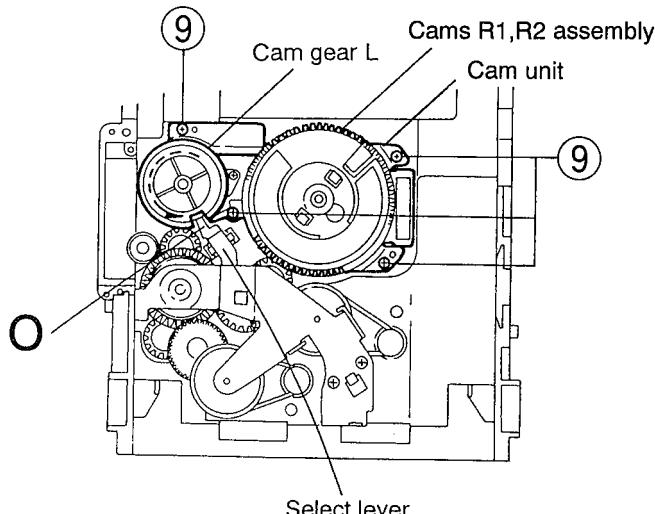

Fig.5-52
- While turning the cam gear L, align the pawl "O" position of the select lever to the notch position (Fig. 5-52) on the cam gear L.
- Remove the four screws ⑨ retaining the cam unit (cam gear L and cams R1/R2 assembly) (See Fig. 5-52).